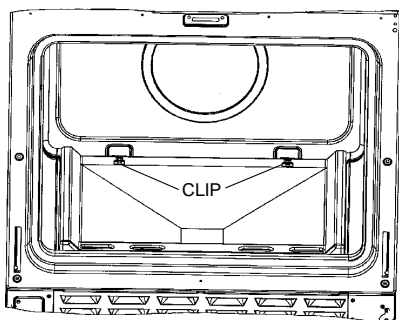

FIGURE 2
- a. Remove oven bottom (figure 2).